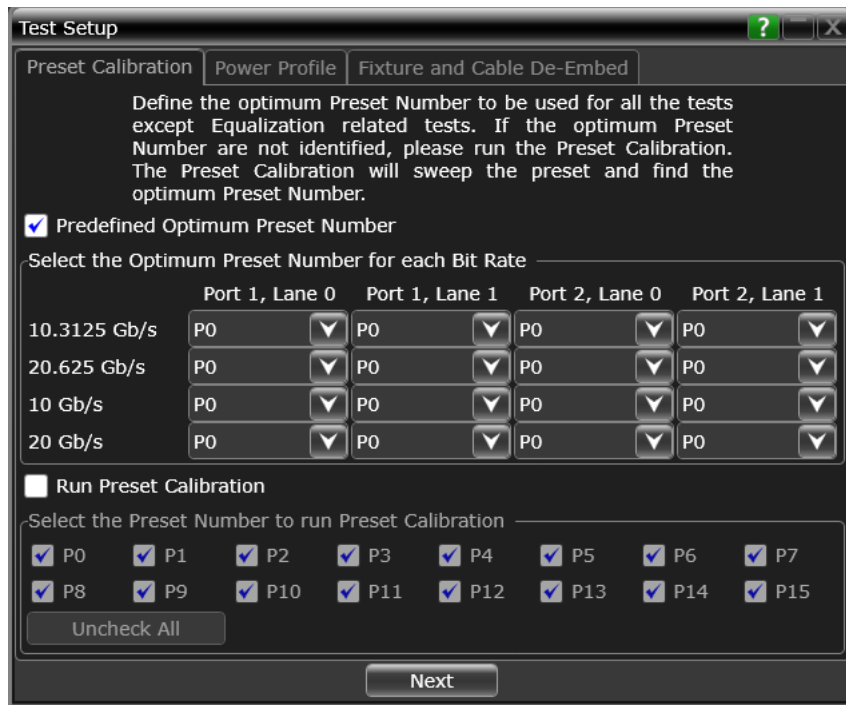
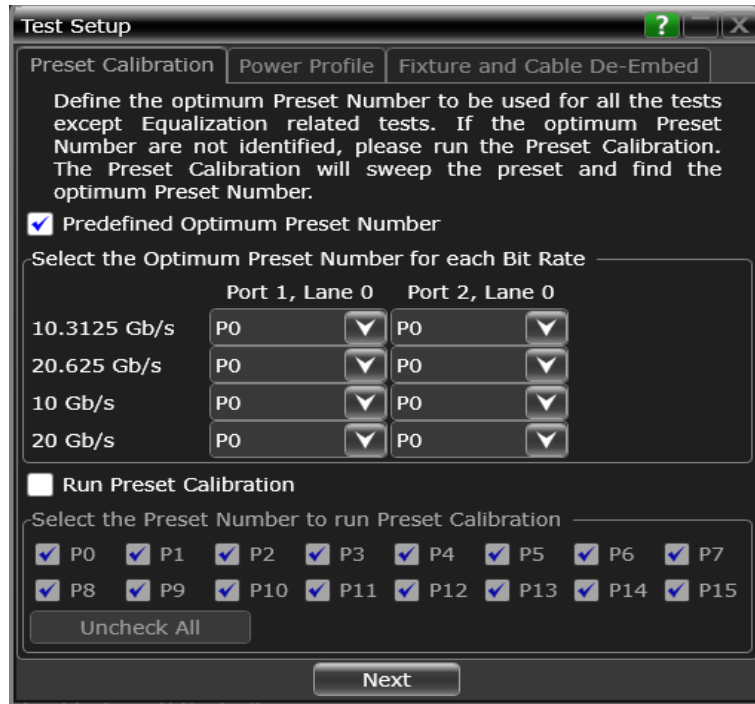

Figure 22 Default view of the Preset Calibration tab on a 4-Channel Oscilloscope
Figure 23 Default view of the Preset Calibration tab on a 2-Channel Oscilloscope
- 2 The **Test Setup** window appears, where the **Preset Calibration** tab is displayed by default, as shown in Figure 22 for a 4-Channel Oscilloscope and Figure 23 for a 2-Channel Oscilloscope.